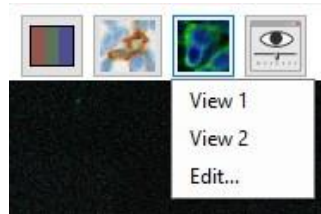

FIGURE 17.14. Example of available options from the Composite button after adding/renaming views.
- d. To add a new Composite view, click Add, and then name the view and add the view components as prompted. You can add an unlimited number of Composite views. (See Figure 17.14.)